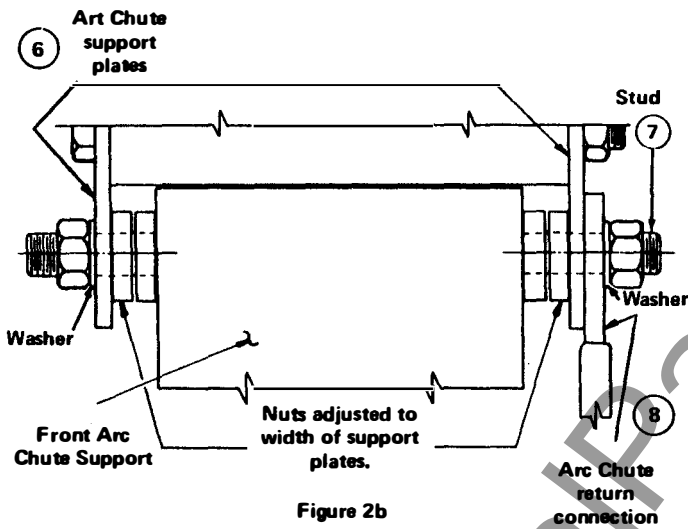

Figure 2b
- (a) Remove screws (2) and remove the interphase barrier (1).
- (b) Lift arc chute with lifting yoke (Page 18) and fit the conductor pin (3) into saddles (4). Arc chute lifting station is provided in aisle units.
- (c) Rotate the arc chute downwards until plates (6) are fitted to stud (7).
- (d) Fix the arc chute by means of nuts on studs (7), making sure that the connector (8) is assembled outside of the plates (6). See Fig. 2b and 2c.